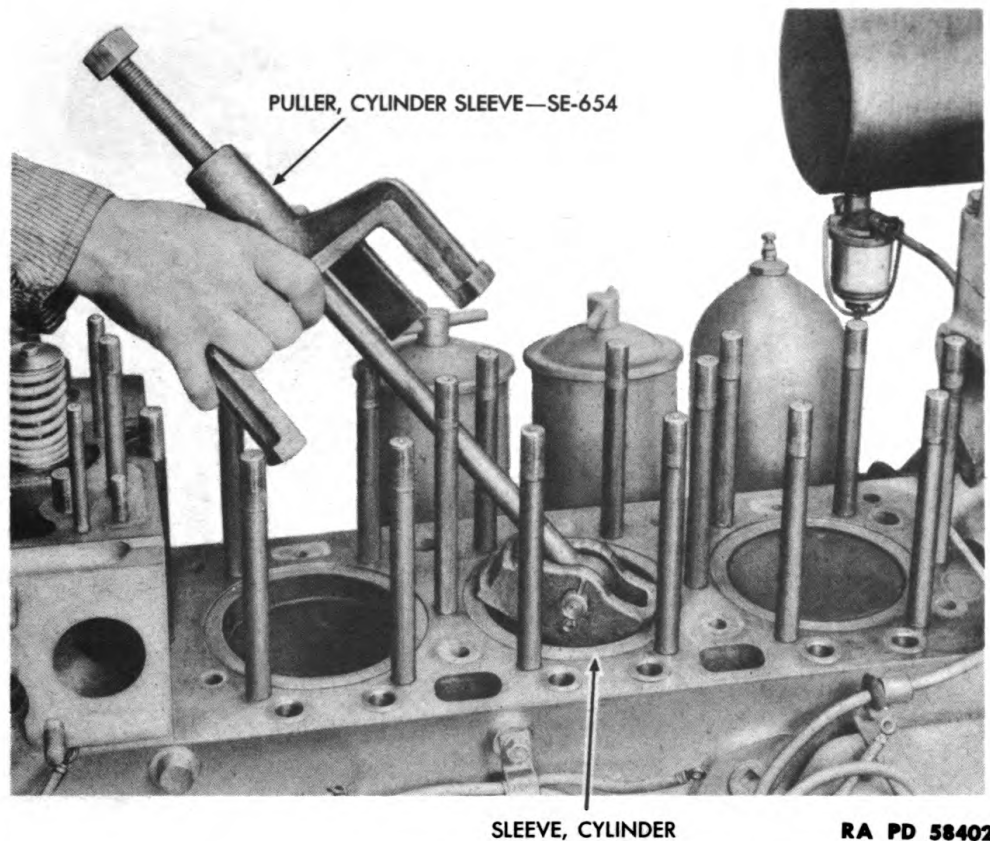

Figure 40—Cylinder Sleeve Puller Tool Installation
(1) INSTALL CYLINDER SLEEVE PULLER TOOL (fig. 40).